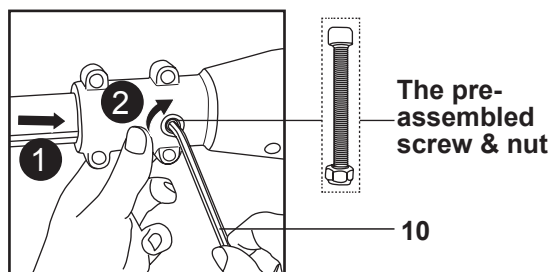

Fig. 3
- Align the pole extension (22) to the motor unit and insert it all the way to the stop. Secure the connection with the screw and nut. (Fig. 3)